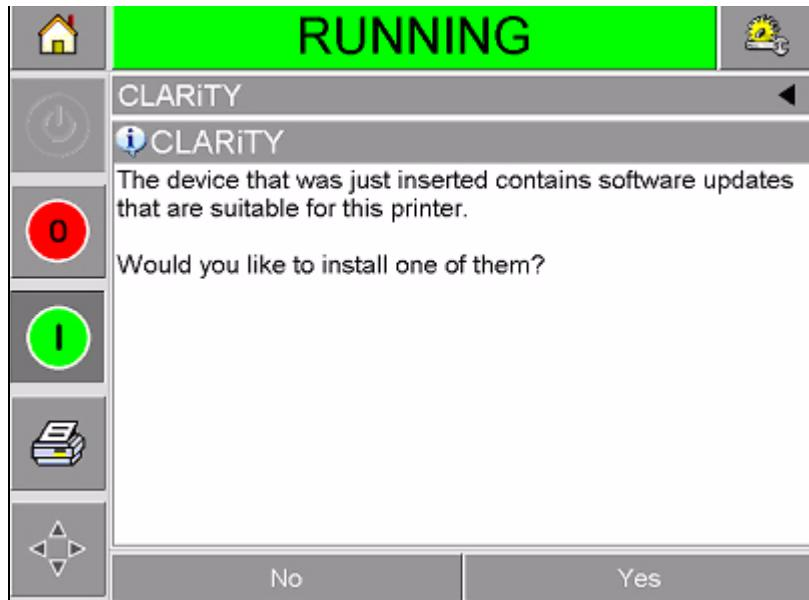

Figure 5-92: Confirmation Page
- 3 If the CLARiTY® Configuration Manager parameter called "Prompt On CLARiTY® Update Detect" is set to Yes, when the device is connected to the CLARiTY® Operator Interface, a confirmation page is displayed (Figure 5-92).